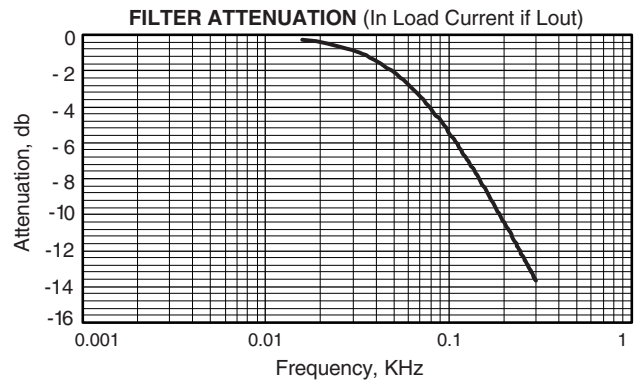

FIGURE 28. THIS IS IDEAL RESPONSE?
**Example 3.** This circuit drives a magnetic bearing requiring up to 12A DC plus up to 3A peak AC up to 300Hz. Bearing coil inductance is 5mH and resistance is 2Ω. Using the Power sheet reveals the AC drive will require 29Vpk, which brings total peak voltage up to 54V. As the PWM circuit will be inside a larger loop based on a position sensor, low phase shift is much more important than amplitude accuracy. The SA03 will handle this job using a current output circuit based on its data sheet typical application. Maximum 22.5KHz ripple voltage at the bearing is 1V peak. Knowing that filters shift phase the least amount in the lowest portion of the bandpass, it was decided to set the cutoff frequency to 3KHz. A split inductor topology will be used with N=3. This data was loaded into Power Design yielding 80uH for the L1s, 35uF for the capacitor, 27uH for the L2s, and 1250uF for the capacitor in the matching network. Leg capacitors will be 1uF. Figure 28 shows the initial current control results.